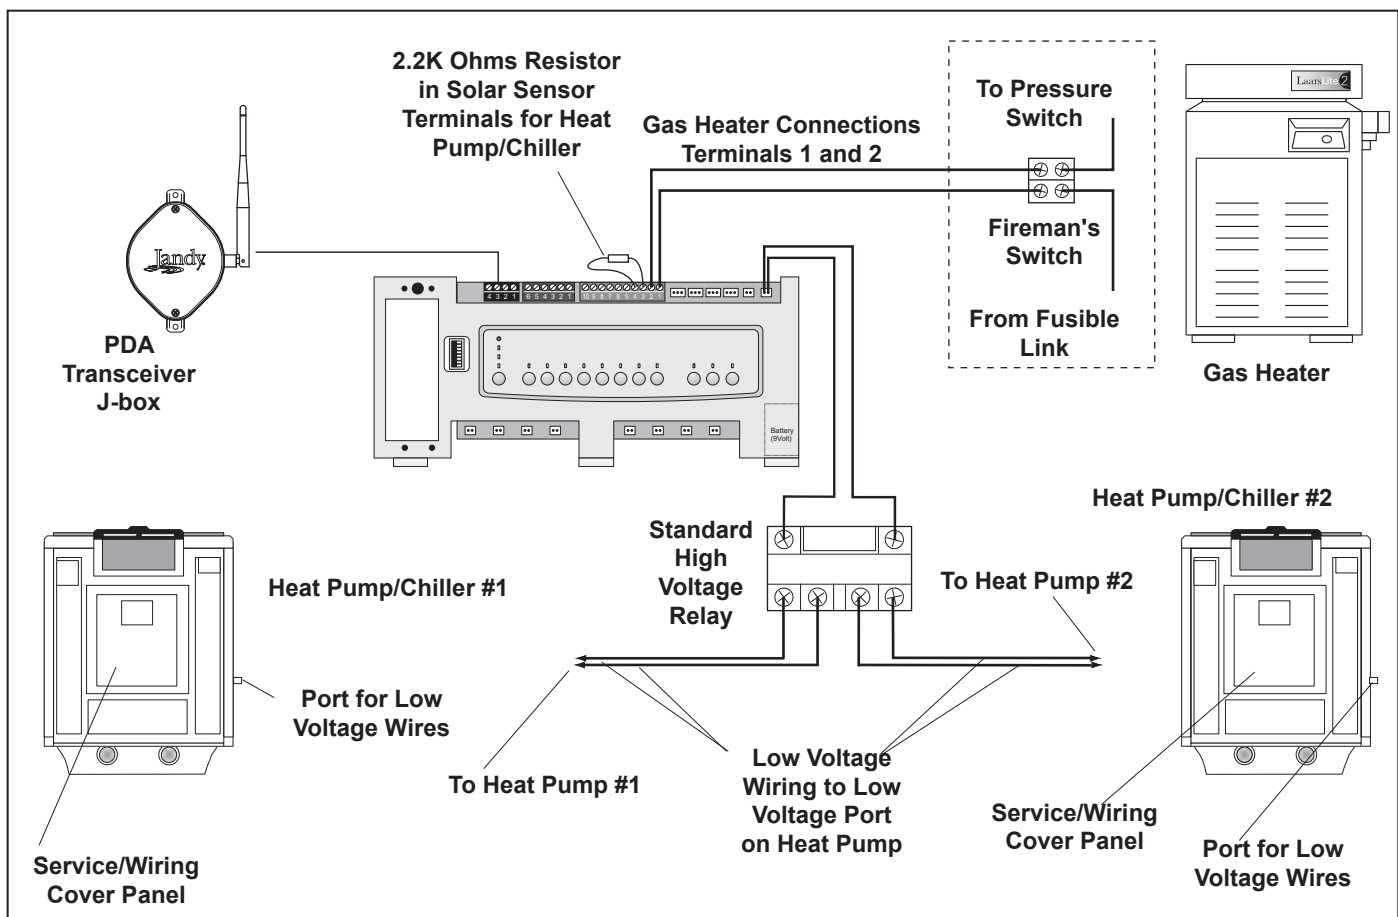

Figure 18. Heater and Heat Pump/Chiller Wiring
1. Install a fixed resistor, with a value of 2.2K Ohms, in the solar sensor terminals #3 and #4 of the green, 10-pin terminal bar of the AquaLink® RS power center (see Figure 18).
2. To run the wires from the heat pump, remove the 5 screws that attach the service/wiring cover panel to the heat pump (see Figure 18).
NOTE One end of the wiring reserved to run into the conduit connection labeled "Low Voltage Connection", located on the lower right hand side of the heat pump (see Figure 18).